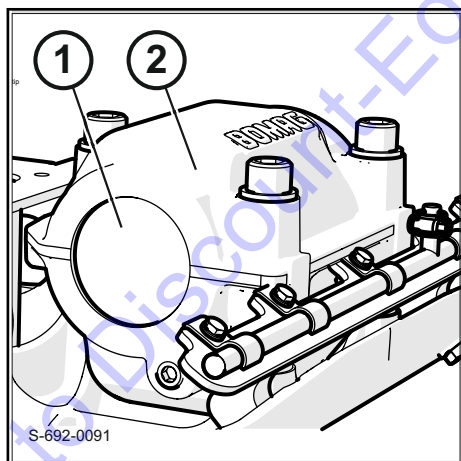

Fig. 91
6. Install the locking cap (1) ↗ Fig. 91 in the bore of the exciter housing (2).